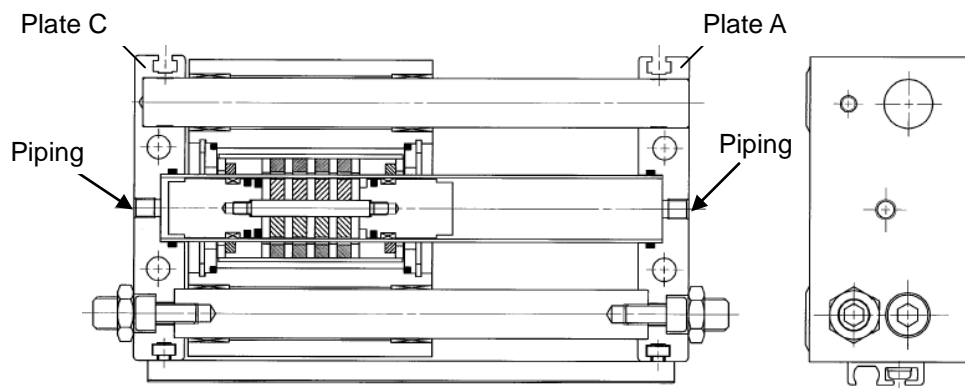

Fig.5-1 Bilateral piping type [CY1S]
2 types of piping type are available: (1) Bilateral piping type [CY1S] One piping port is located at each end plate, (2) Centralized piping type [CY1SG] Two piping ports are both located at plate A. (Fig. 5-1, Fig. 5-2)